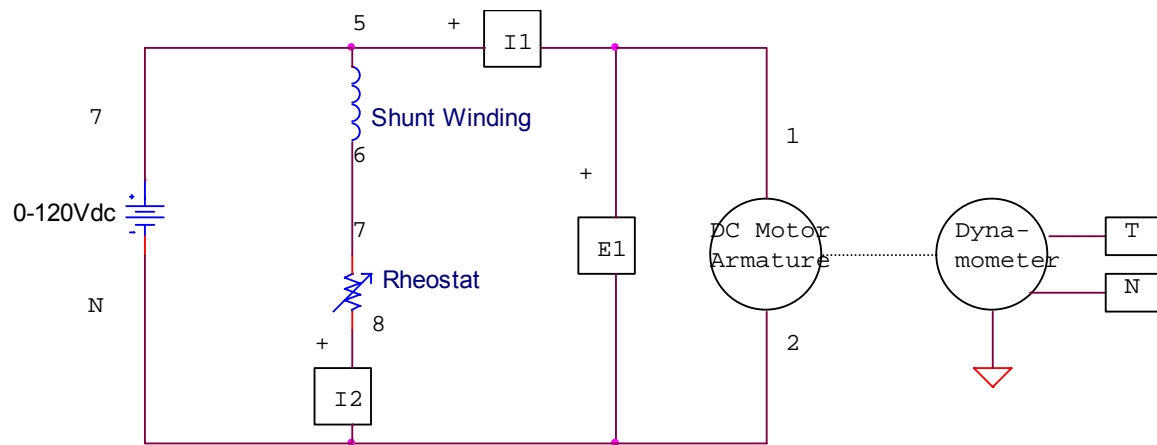

Figure 3: Shunt connected DC Motor Circuit
28. Construct the shunt connected DC Motor circuit of Figure 3.